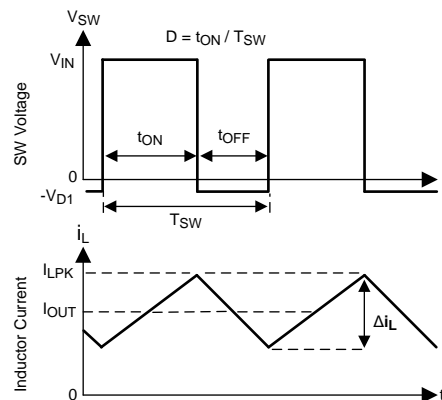

Figure 33. SW Node and Inductor Current Waveforms in Continuous Conduction Mode (CCM)
The following operating description of the LM46001 refers to the Functional Block Diagram and to the waveforms in Figure 33. The LM46001 is a step-down buck regulator with both high-side (HS) switch and low-side (LS) switch (synchronous rectifier) integrated. The LM46001 supplies a regulated output voltage by turning on the HS and LS NMOS switches with controlled ON-time. During the HS switch ON-time, the SW pin voltage V_{SW} swings up to approximately V_{IN} , and the inductor current I_L increases with a linear slope $(V_{IN} - V_{OUT}) / L$. When the HS switch is turned off by the control logic, the LS switch is turned on after a anti-shoot-through dead time. Inductor current discharges through the LS switch with a slope of $-V_{OUT} / L$. The control parameter of buck converters are defined as duty cycle $D = t_{ON} / T_{SW}$, where t_{ON} is the HS switch ON-time and T_{SW} is the switching period. The regulator control loop maintains a constant output voltage by adjusting the duty cycle D . In an ideal buck converter, where losses are ignored, D is proportional to the output voltage and inversely proportional to the input voltage: $D = V_{OUT} / V_{IN}$.